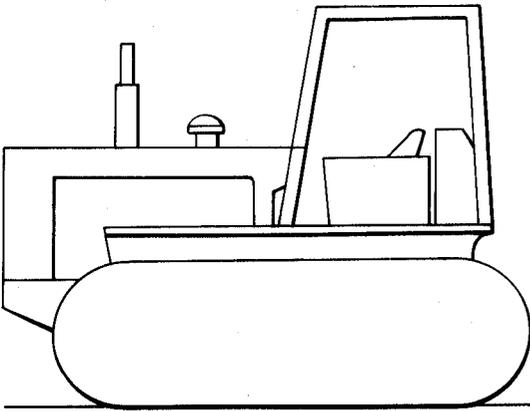

Figure 1 — Crawler tractor
5.1.1.1 Crawler tractor (see figure 1).
5.1.2.1 Front engine (see figures 1 and 3).